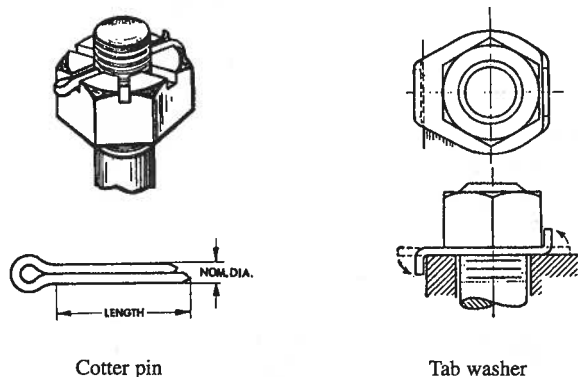
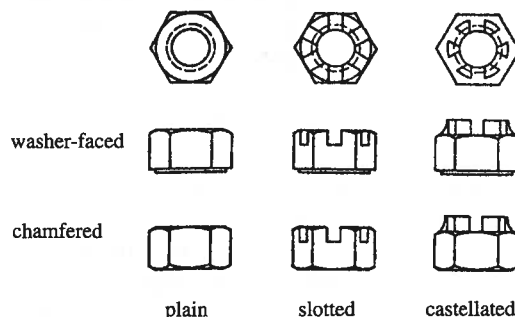

Figure 8. *Locking devices*
Figure 14. Types of nuts
Fasteners used in high-speed machines (airplanes, automobiles and motorcycles) were usually secured with various safety devices to make absolutely certain that the fasteners stayed tight during operation. These devices included cotter pins, tab washers and safety wire (see Figures 8 and 9, page 4, and Glossary, page 10).
Locking devices such as cotter pins and tab washers (Figure 8) will have to be bent out of their original position to allow the nut to be removed. Just before bending, heat the part to a glowing red colour with a torch, and reheat it as the bending proceeds in short stages. This will relieve the stress in the metal, which otherwise could fracture during the operation.
3. *Shape* is limited to either square or hexagonal. One should also note if a nut is *slotted* (Figure 14). A slotted nut is prevented from turning by a cotter pin (or "split pin") running through the slots and by a hole drilled through the shank of the bolt (Figure 8). If the slotted area is raised, the nut is called *castellated*, also known as a "castle nut," because the raised areas resemble the battlements of a castle. The bottoms of the slots may be either square or rounded. The bearing surface of a nut can be *washer-faced* (with a raised, machined surface), or both top and bottom surfaces may be *chamfered* (flat with rounded corners and edges) (Figure 14).